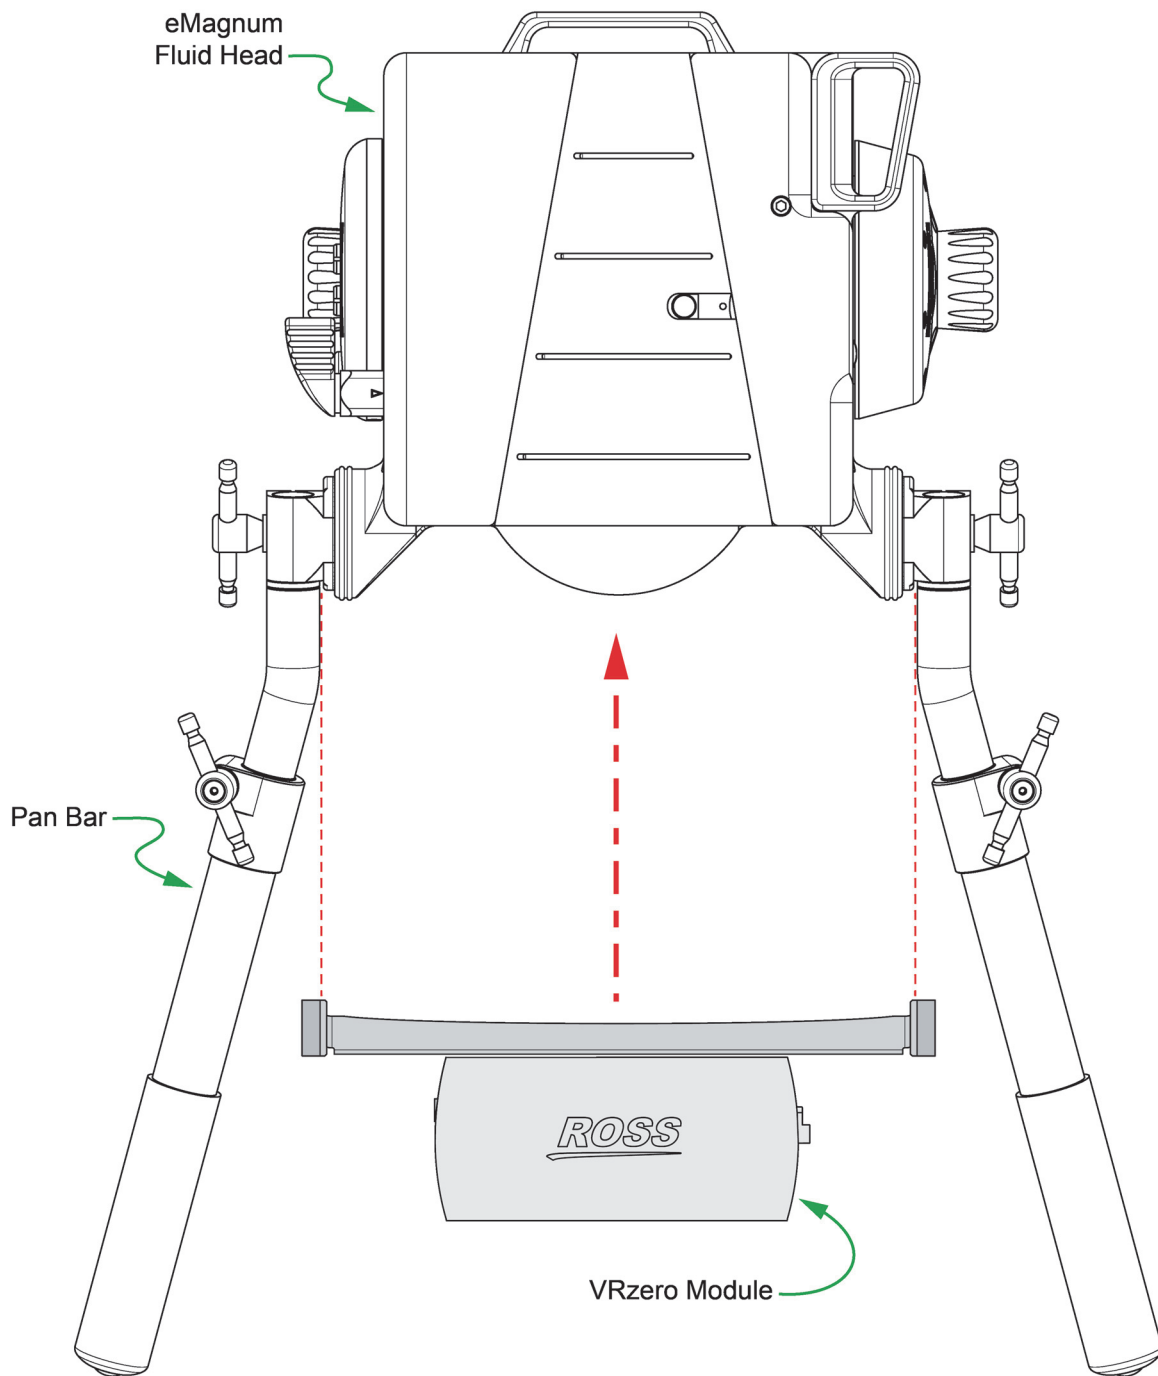

Figure 3.5 - Sliding the VRzero Module onto the Pan Bars
- b. Slide the VRzero module between the pan bars, positioning it no more than 1/4" (6mm) from where the pan bars meet the eMagnum fluid head (see **Figure 3.5**).